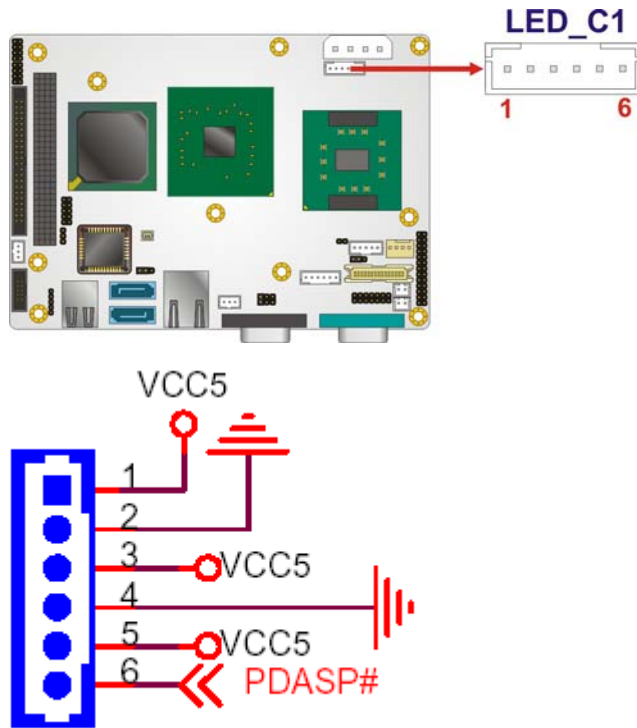

Figure 4-12: LED Connector Locations
- CN Location:** See **Figure 4-12**